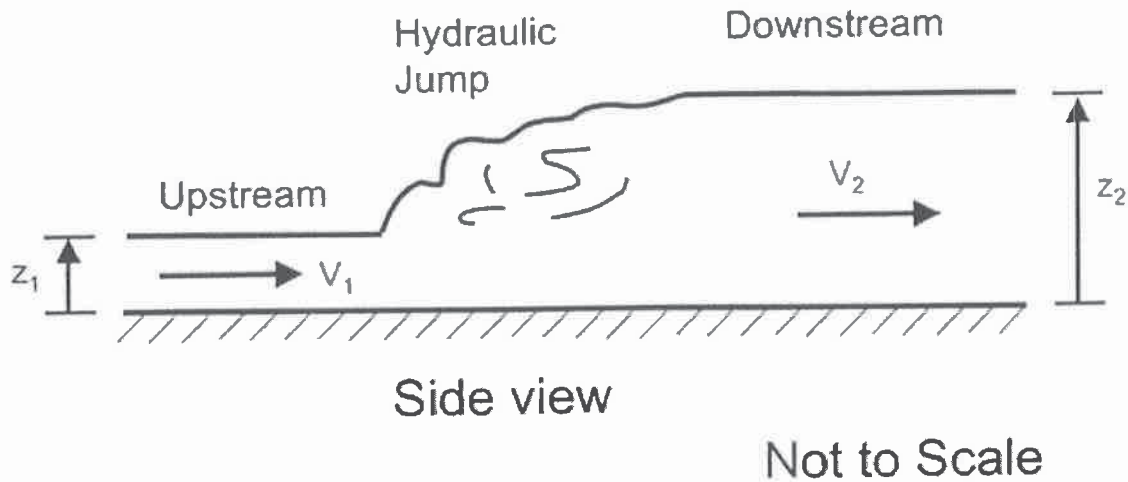

Figure 5. Hydraulic jump.
5. The spillway of a dam discharges into a rectangular channel (Figure 5). The hydraulic jump indicated below occurs in the rectangular channel. The rectangular channel is  $B = 6.5 \text{ m}$  wide. The flow from the spillway is  $20 \text{ m}^3/\text{s}$ , and the depth  $z_1$  upstream of the hydraulic jump is 0.2 m.